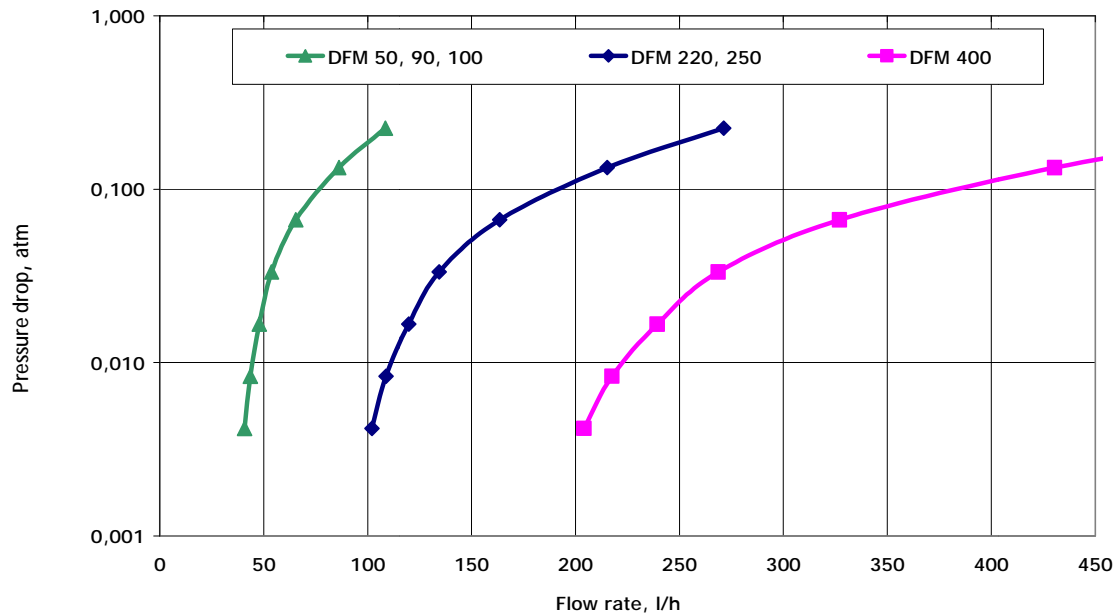

Fig. 2. Diagrams of pressure drop in the DFM flow meters depending on the fuel consumption
*more detailed, see Fig.2
5) check the fuel pressure, then make sure that the resistance at the selected DFM at a nominal flow rate is less than 5% of the pressure in the system (see item 1.1. Fig. 2);